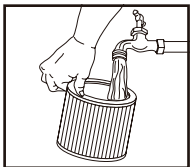

FIGURE 11
16. Or rinse (from the inside of the filter) with water. **FIGURE 11.**